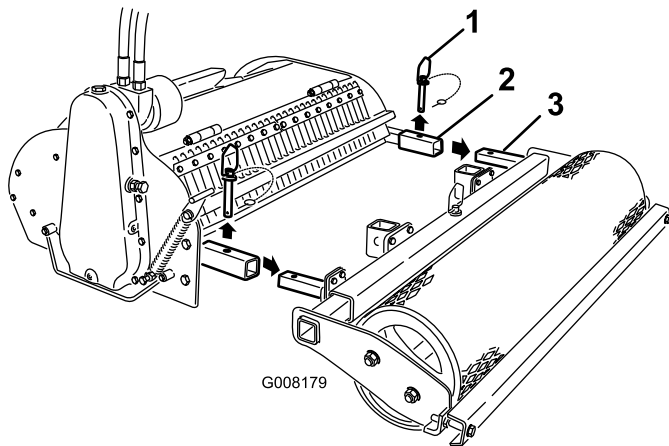

Figure 5
2. Remove the pins from the arms of the cultivator (Figure 5).
3. Pull the roller off the cultivator (Figure 5).